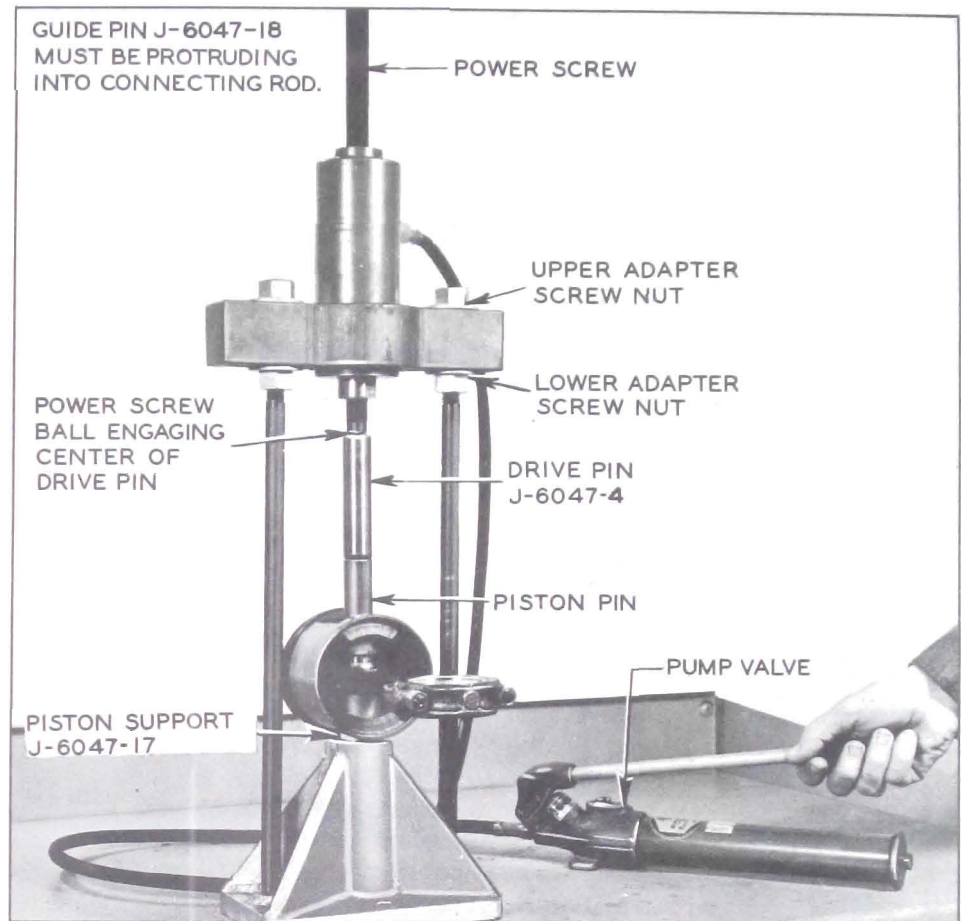

Figure 2-37—Installing Piston Pin
1. To assemble piston, pin, and rod, first place Piston Support J-6047-18 in base plate of press. Use the piston support with the full radial face upward. See Figure 2-37.
3. Place small end of Drive Pin J-6047-4 in hole in upper (protruding) end of piston pin and position the assembly in the press. See Figure 2-37.